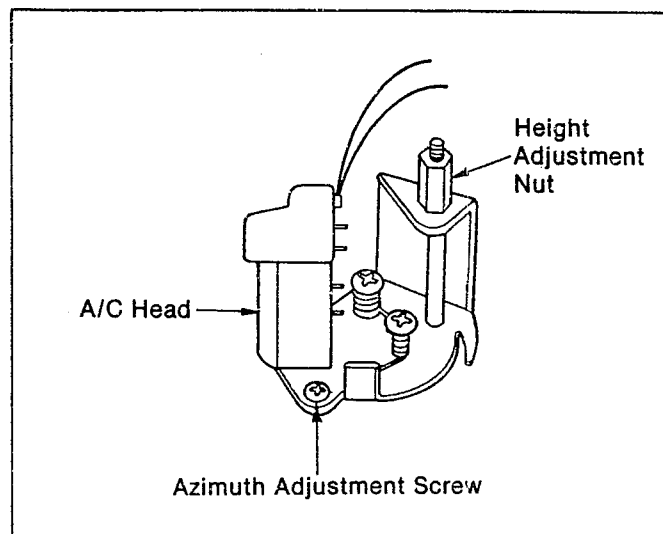

Fig. T6
- (1) Connect the oscilloscope to Audio Line Output.
- (2) Play back the Monoscope portion (6KHZ, MONO) of the Alignment tape.
- (3) Adjust the Azimuth Adjustment screw on the A/C Head Base in Fig. T6 so that output level is at a maximum.